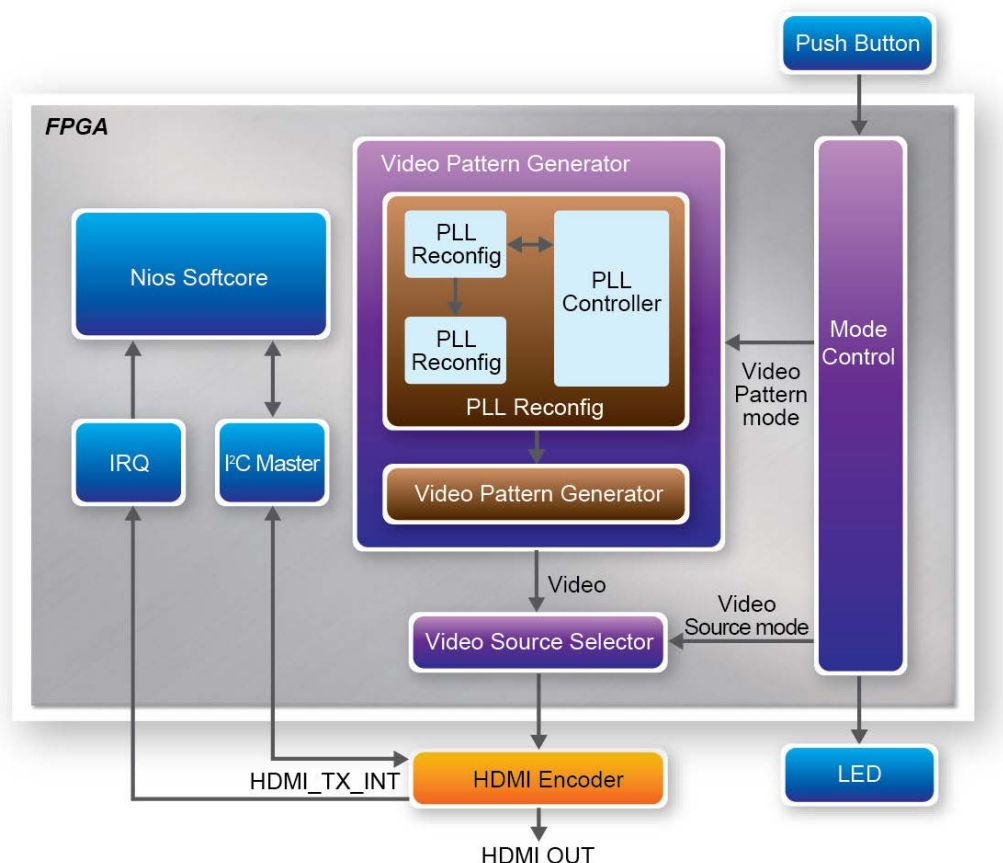

Figure 6-9 Block Diagram of the HDMI TX Demonstration
- Use File Manager to locate the "*C5G_HDMI_VPG\demo_batch*" folder. Launch the configuration and program download process by double clicking "*test.bat*" batch file. This will configure the FPGA, download the demo application to the board and start its execution. A console terminal will be kept on the screen and the user can interact with the demo application through the console box. After it's done the screen should look like the one shown in Figure 6-9.